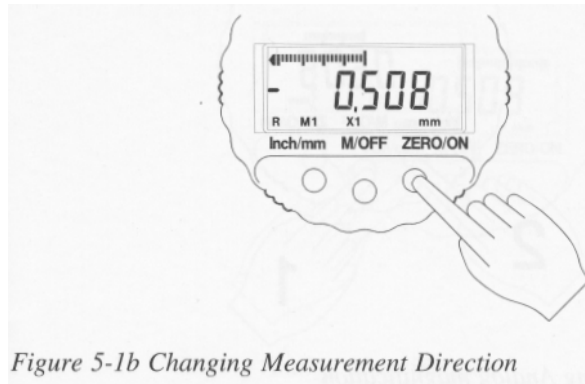

Figure 5-1b Changing Measurement Direction
- 2) Press and release ZERO/ON to select the desired Measurement Direction signified by the "R" icon for reverse mode and no icon for the normal mode. (Fig.5-1b)